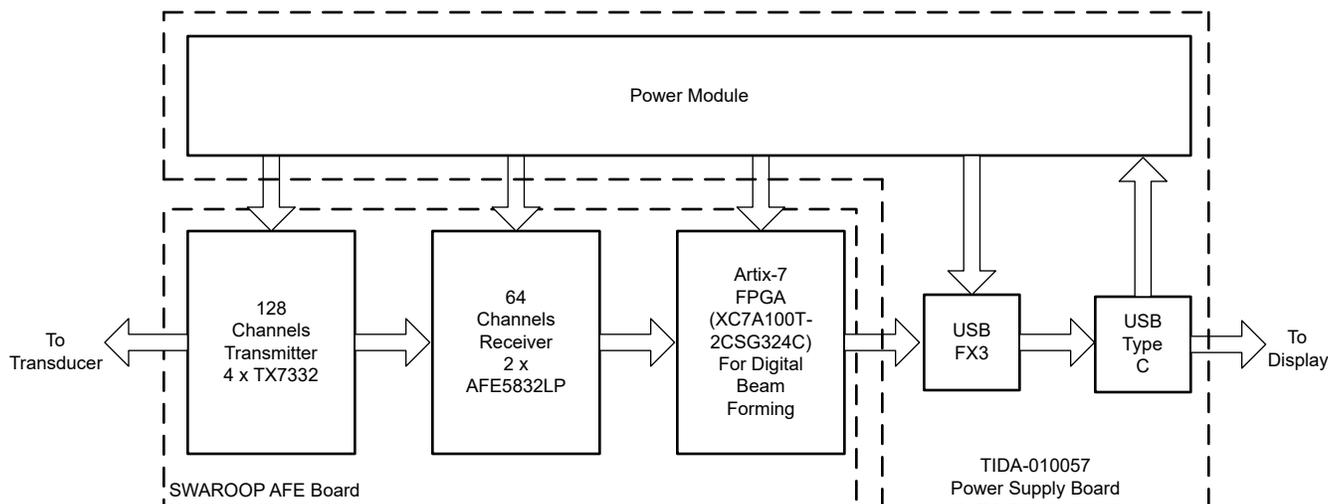

Figure 1-1. Ultrasound Smart Probe System Diagram
An ultrasound is one of the most routine examinations in the hospital. Generally, these tests are done by cart-based or portable ultrasound equipment. The advent of the smart probe makes all these processes easier because only a wired or wireless probe connected to a smart phone or tablet is needed. As Figure 1-1 shows, this small-size device integrates the same units as common ultrasound equipment, including a transmitter (TX), receiver, FPGA connection, and power module (high- and low-voltage circuit). The whole device is usually powered by a Li-Ion battery. To extend the battery life, the device requires a highly-efficient power supply, low power consumption, and good thermal performance. This application note provides a new strategy to reduce quiescent dissipation for the power supply of the transmitter.